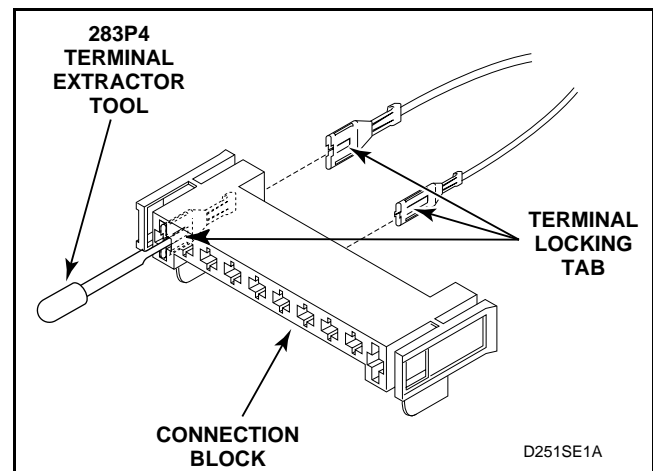

Figure 31
- (1.) Insert the tool into the block on the back of the terminal being removed. See Figure 31.
- (2.) Apply tool pressure to compress the terminal locking tab on terminal and force the terminal and wire out back side of connection block. See Figure 31.